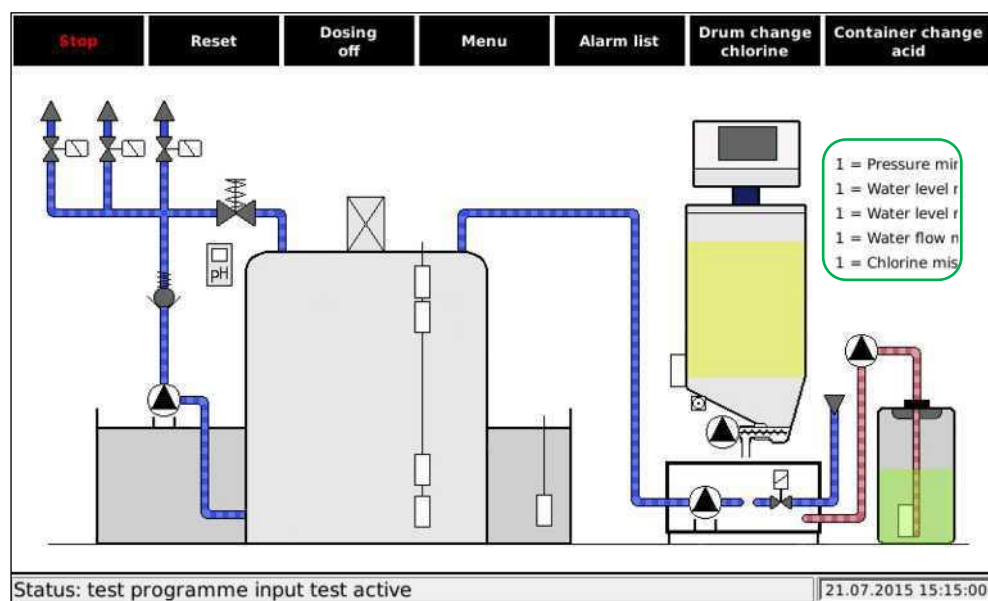

Figure 48, Input test
- **Input test**: The switching states of the 5 monitoring switches in the rinsing tray and the feed system are shown in the flow diagram on the display. The values are framed in green in *Figure 48, Input test*. In addition, all currently pending fault messages are shown!